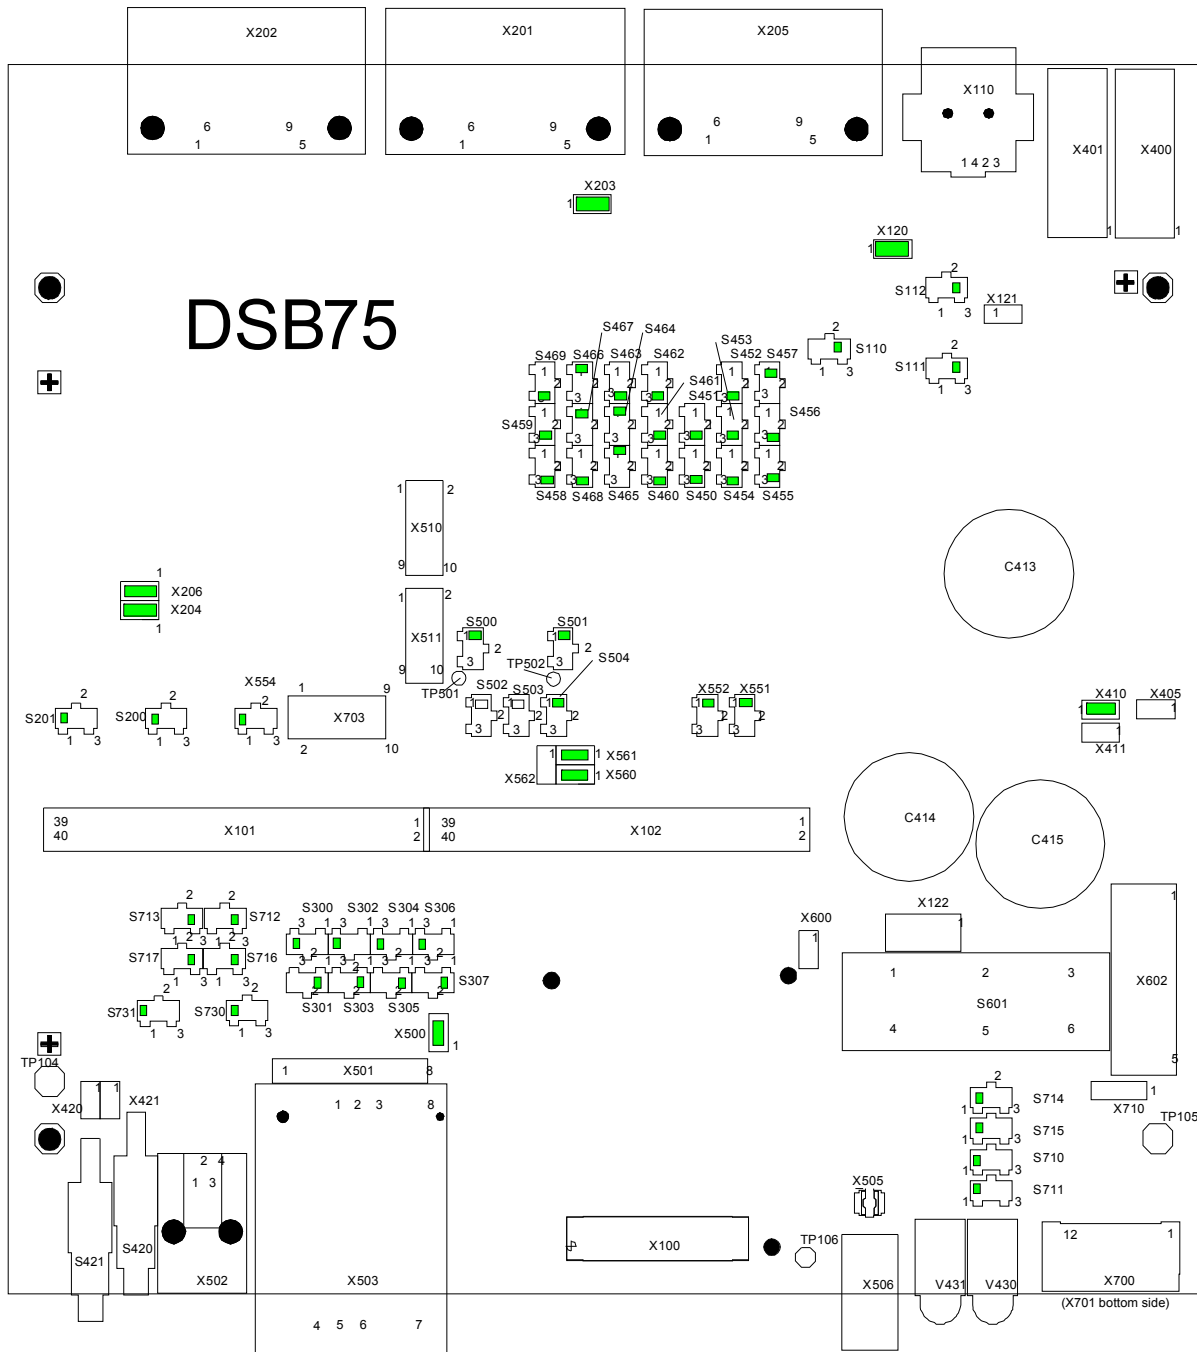

Figure 1: DSB75 configuration
- Ensure that all jumpers and slide switches on the DSB75 are set to their default positions as shown in Figure 1 and in [\[3\]](#).